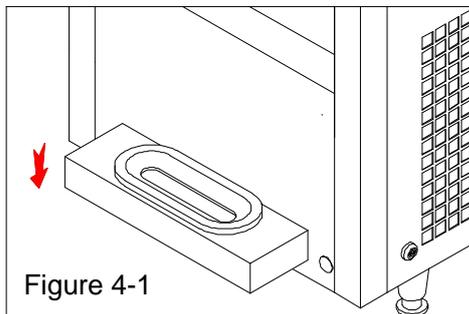

Figure 4-1
- D. Install the drip pan on the freezer (Figure 4-1).